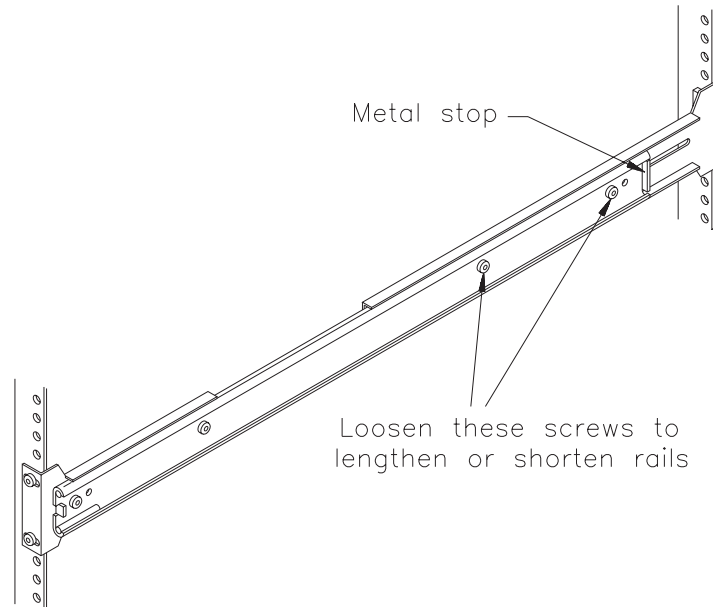

Figure 15 Attaching the rack slide rails
2. Orient the slide rails so that the metal stop is toward the back of the cabinet, as shown in Figure 15. If the rails are not long enough to reach the back of the cabinet, use a T-15 TORX bit to loosen the screws on the rails. Extend the rails to the desired length and tighten the screws.